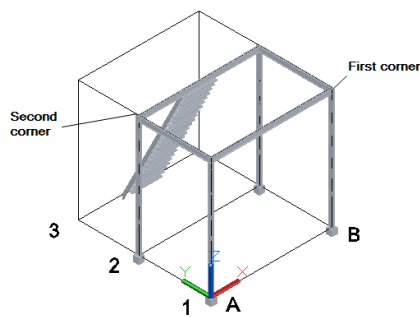
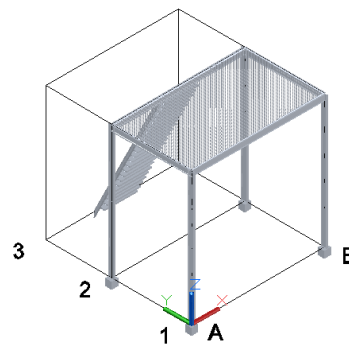

Figure 3-45 Selecting corner points to create a grating
Figure 3-46 Grating created on the model
3. Change the view orientation of the model to **SW Isometric** and select the corner points, as shown in Figure 3-45; a rectangular grating is created on the platform, as shown in Figure 3-46.